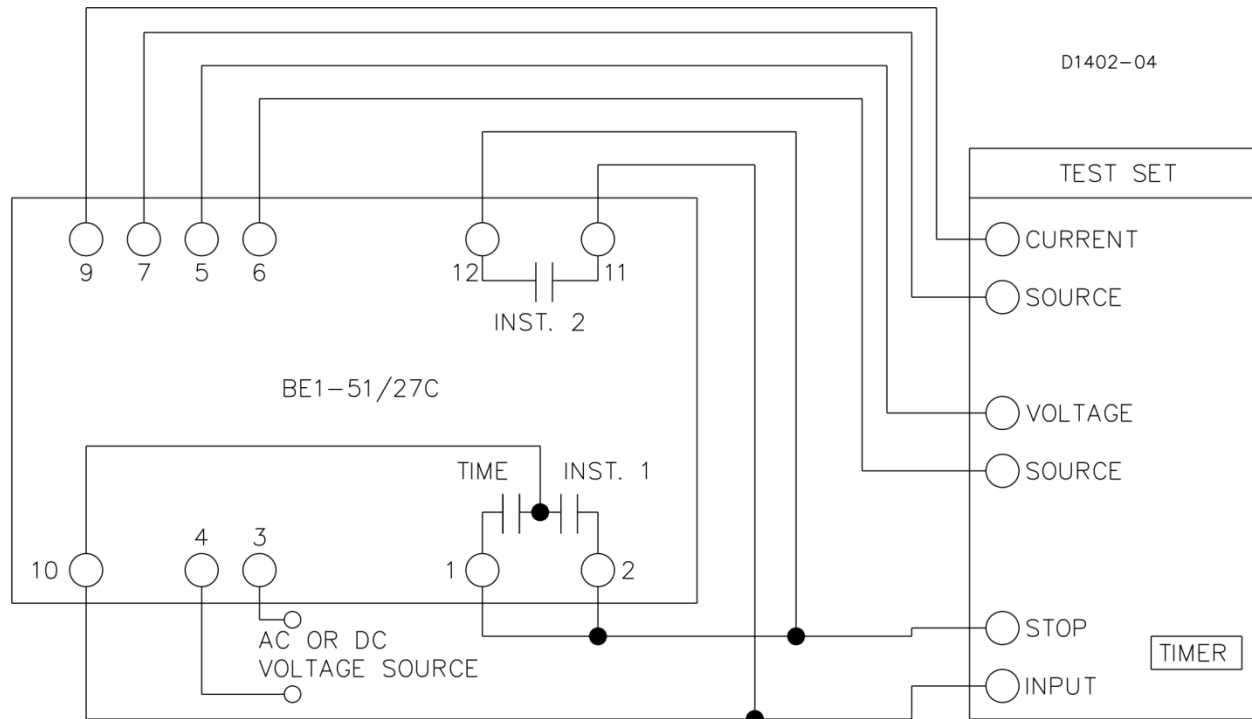

Figure 5-1. Test Setup for Sensing Input Type L (Single-Phase Sensing)
Step 1. Connect the relay test setup in accordance with Figures 5-1 through 5-6, depending upon the sensing input type for your relay (see the style chart in the *General Information* chapter).
- (a) *Sensing Input Type L (Single-Phase Sensing)*. Refer to Figure 5-1.
- Step 2. Reconnect the test setup to the INST 1 output terminals 2 and 10 as shown in Figures 5-1 through 5-6. Note that the timer may be removed from the test setup at this time.